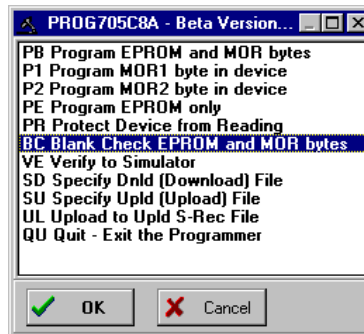

Figure 6-21. PROG05C Programmer Pick Window
- **Pick Window:** The Pick Window (Figure 6-21) displays all programming actions and functions for you to select.